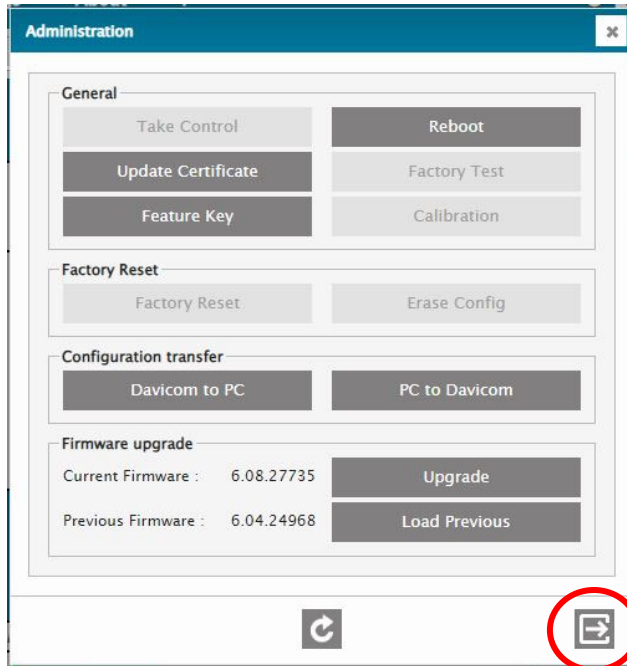

Figure 3: System – Administration screen
- (e) Select **System ► Administration** from the dropdown menu along the top of the screen. The menu in Figure 3 will appear.